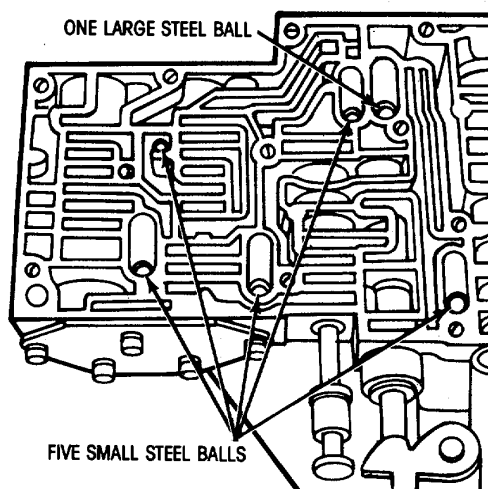

Figure 5-12. Steel Ball Location
11. Place the six steel balls in the valve body chambers with large ball in the large chamber (figure 5-12).